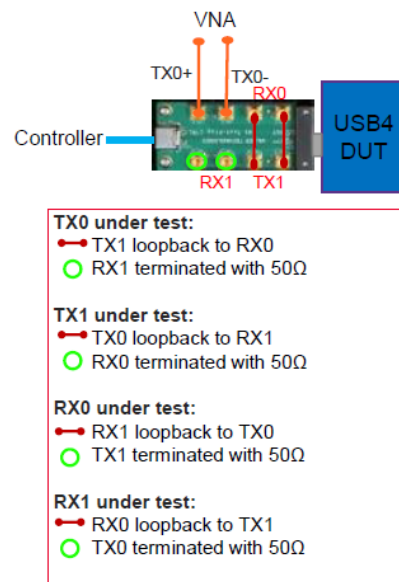

Figure 120 SMP test fixture - Tx/Rx lane switching
- 8 In case of SMP test fixture, Tx/Rx lane under test can be switched as shown in Figure 120.